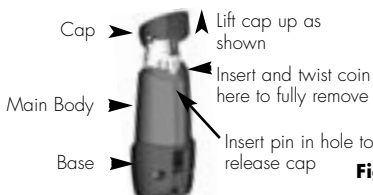

Figure 1
2. While pushing up on the cap, insert the end of a paper clip or similar object into the hole in back of the main body as shown in Figure 1. This will unlock the Module assembly from the main body. To fully remove the Module assembly, insert a coin, such as a quarter, between the cap and the main body. Twist the coin to apply opposing force to the cap and main body. Pull the Module out of the main body.